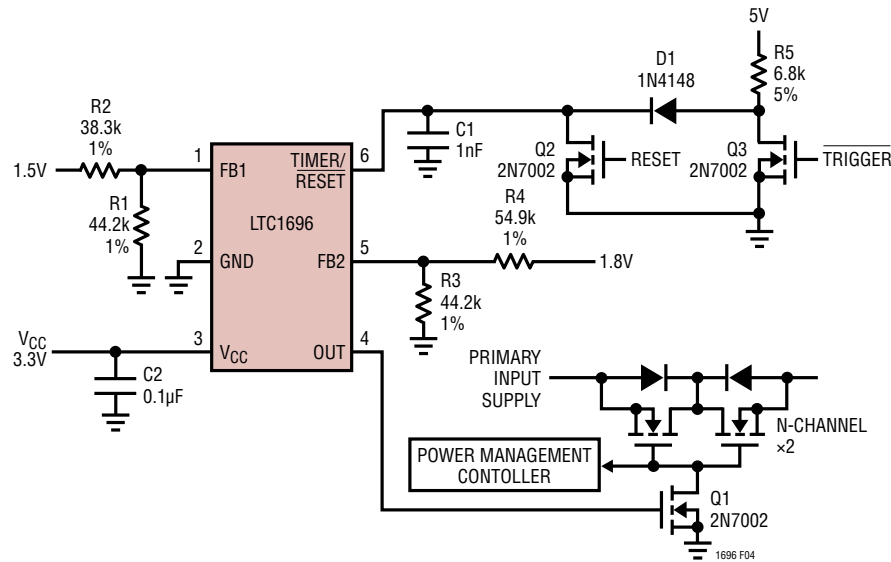

Figure 4. External Triggering
**FB1** and **FB2** pins are below the trip threshold of the internal comparator. The output is then reset by pulling the **TIMER/RESET** pin low. Figure 4 shows a circuit that uses the external triggering function of the LTC1696